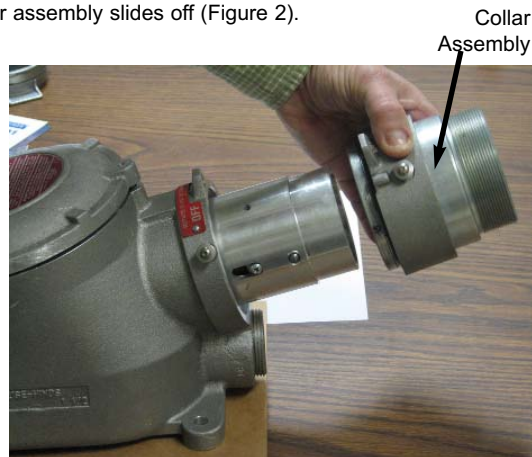

Figure 2
4. Collar assembly slides off (Figure 2).